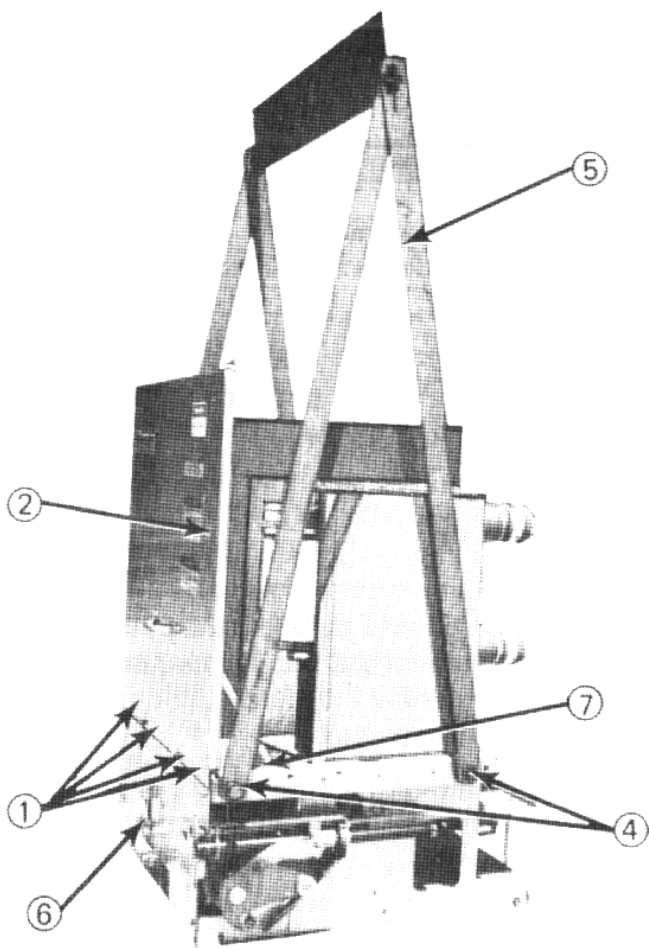

Fig. 1 — Circuit Breaker Assembly with Lifting Yoke Installed
Referring to Fig. 1, if it is necessary to raise or move the breaker, attach a lifting yoke (5) at points 4 on both sides of the truck, or a fifth wheel at point 6 to transport the breaker as required.
The front cover and interphase barrier assemble (2, Fig. 1) must be removed for access to and inspection of the vacuum interrupters, and their associated adjustments.
Removing Front Cover and Interphase Barrier (See Fig. 1)
Installing Front Cover and Interphase Barrier (See Fig. 1)